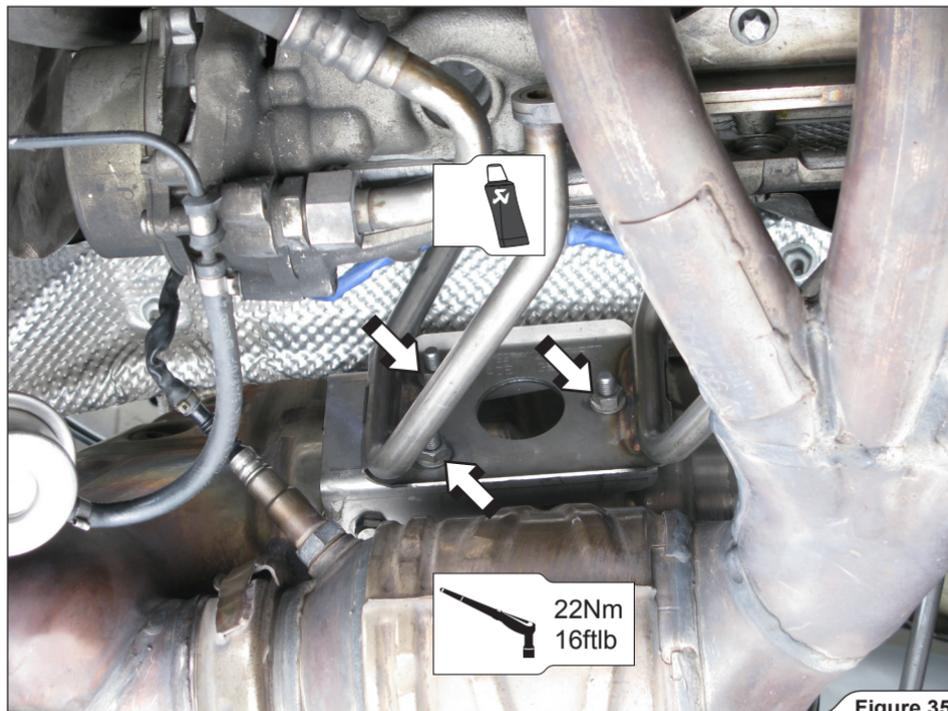

Figure 35
17. **For Slip-On:** install both stock side mufflers using stock nuts. Tighten the nuts to a specified torque (**Figure 35**).